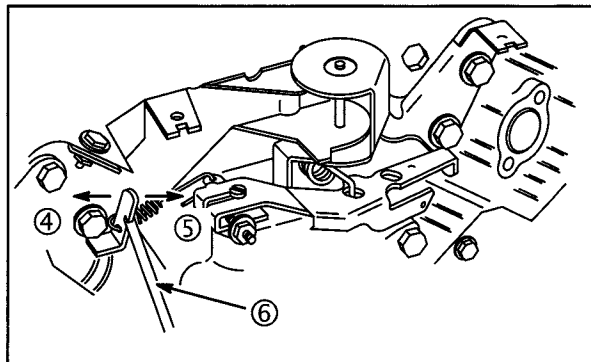

Fig. 21
9. If necessary, use Tang Bender #19352 (6), Fig. 21. Bend governed idle tang LEFT to INCREASE (4), right to DECREASE (5) engine speed to obtain RPM shown: